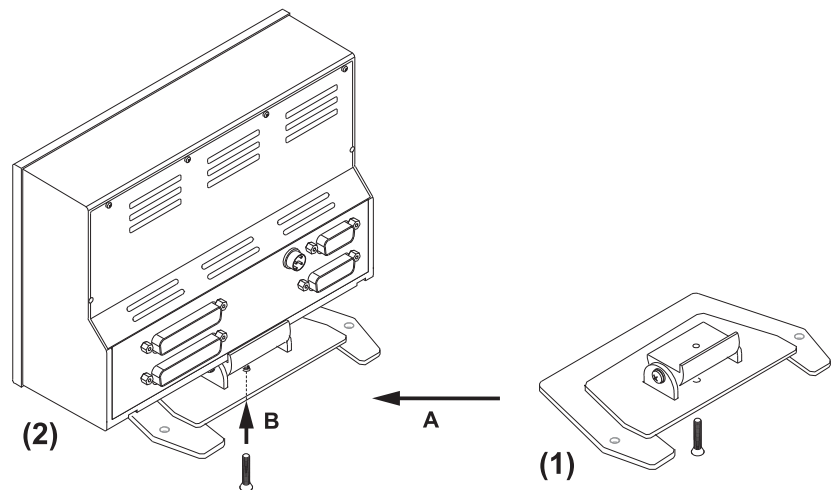

Fig. E 7-13: Fastening the table stand (10600-PLUS)
- Place centered the table stand to the rear flange of the bottom side of the case and fasten it with its screw. (Fig. E 7-13, also see Chapter E 7.2.)